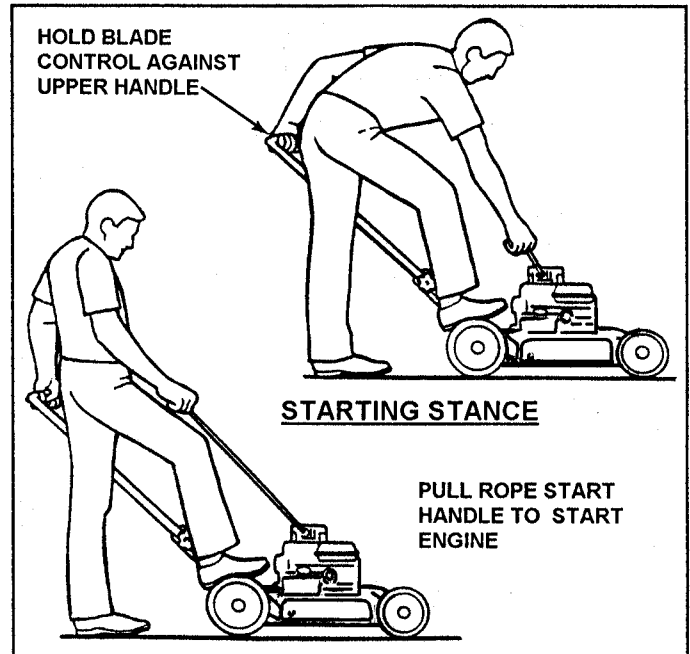

FIGURE 4
3. Hold the **BLADE CONTROL** firmly against the upper handle. See Figure 4.